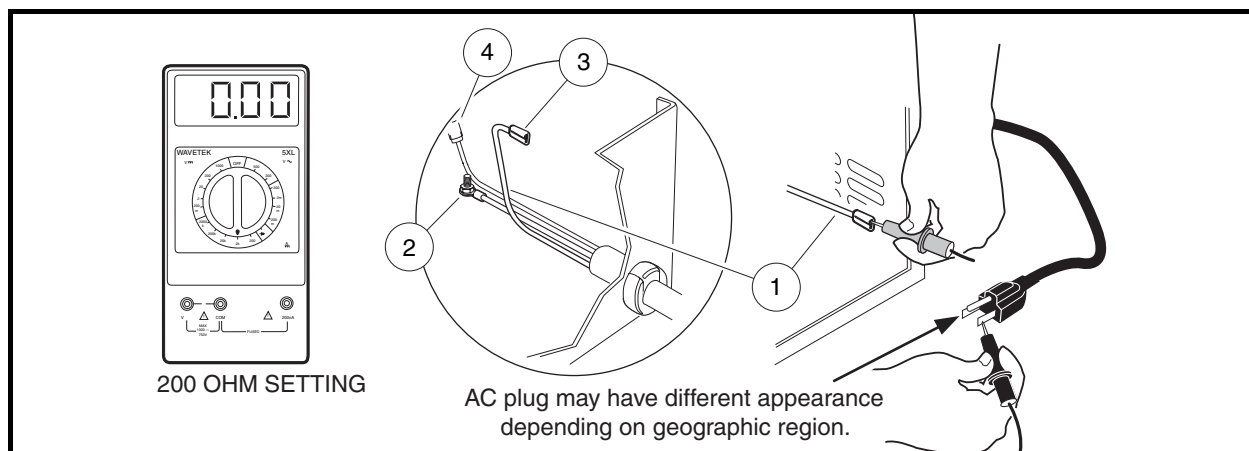

Figure 3-26 AC Plug
3. Disconnect green/yellow wire (2) from charger case and position it so it does not touch any metal part of the charger (**Figure 3-26, Page 3-26**).
4. Disconnect brown wire (1) of AC cord from charger relay terminal 6.
5. Disconnect the blue wire (4) from the charger relay terminal 4.
6. Using a multimeter set for 200 ohms, place the red (+) probe on the terminal at the end of the brown wire (1). Test for continuity on each of the flat blades and on the round pin of the AC plug. The tester should indicate continuity on one flat blade only. If any other reading is obtained, the AC cord and plug must be replaced.
7. Place the red (+) probe on the end of the green/yellow wire (2) and with the black (–) probe check for continuity on both flat blades and on the ground pin of the AC plug. The tester should indicate continuity on only the ground pin. If any other reading is obtained, the AC cord and plug must be replaced.